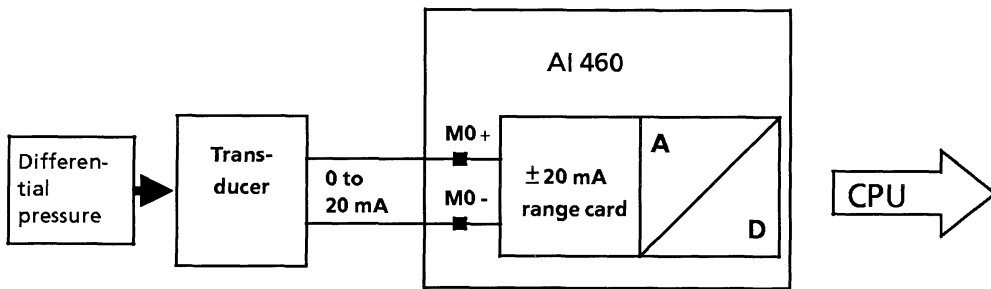

Figure 10.38 Function of the 460 Analog Input Module
- ▶ Plug a ± 20 mA range card (6ES5 498-1AA41) into the AI 460. A digital value between 0 and 2048 units, which is subsequently processed by the application program, is then present at the output of the analog input modules' internal ADC (see Figure 10.38).